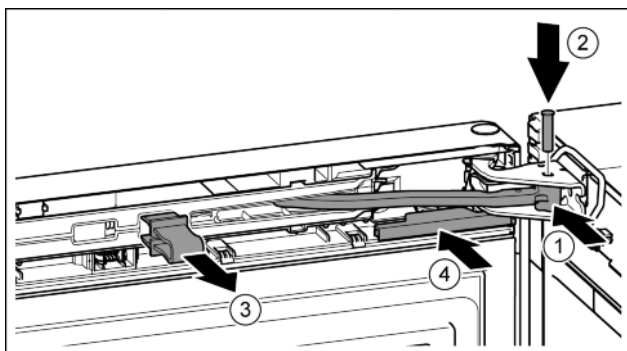

Fig. 42
- ▶ Turn the hinge in the bearing bracket. Fig. 42 (1)
- ▶ Insert the bolt in the bearing bracket and hinge. Make sure that the catch mechanism is sitting correctly in the groove. Fig. 42 (2)
- ▶ Remove the locking device. Fig. 42 (3)
- ▶ Slide on the cover. Fig. 42 (4)